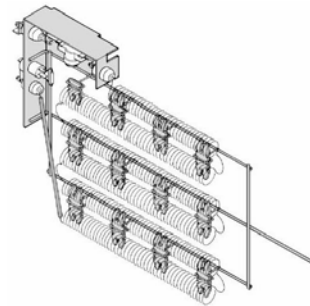

Figure 6: Heating element
6.5 HEATING ELEMENT - See Figure 6